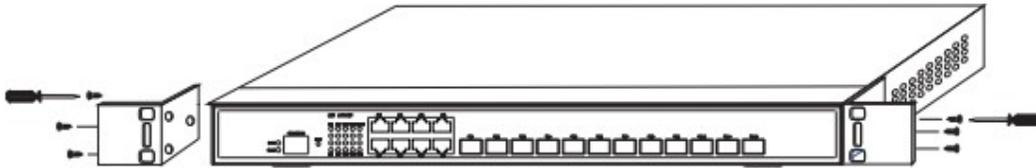

Figure 3-1 Fixing the machine box of the switch
The machine box of the switch is fixed on the cabinet through the brackets. When you fix the brackets, the front template of the switch faces forward. The detailed operations are shown in Figure 3-1.
**Caution:** The switch shown in figure 3-1 does not represent the material SFC4200A.